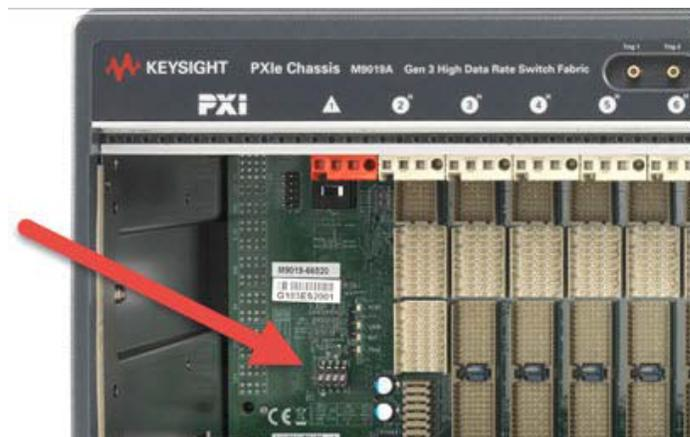

Figure 72 Fabric Reset Switch on M9018B (second switch from left)
- b On the M9018B chassis, locate the Load Base Configuration switch on the backplane just to the left of slot 1. It is the second switch from the left. See Figure 72 below.
- b** On the M9018B chassis, locate the Load Base Configuration switch on the backplane just to the left of slot 1. It is the second switch from the left. See Figure 72 on page 135.